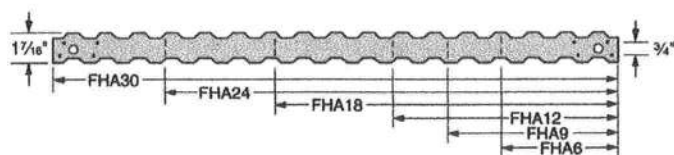

FIGURE 1—FHA SERIES TIE STRAPS
3.1.1 FHA Series: The FHA Series tie straps are 6³/₈ to 30 inches (162 to 762 mm) long, and have a constant width of 1³/₁₆ inches (30.2 mm). The total strap width between longitudinal edges is 1⁷/₁₆ inches (36.5 mm). The longitudinal edges of the tie straps have 1/4-inch-deep (6.4 mm) notches that are spaced 2 inches (51 mm) on center. Each end of an FHA strap has four 1¹/₈-inch-diameter (4.3 mm) prepunched nail holes. See Figure 1 for a drawing of the FHA Series tie straps. See Table 1 for strap dimensions, fastener schedules, and allowable tension loads.